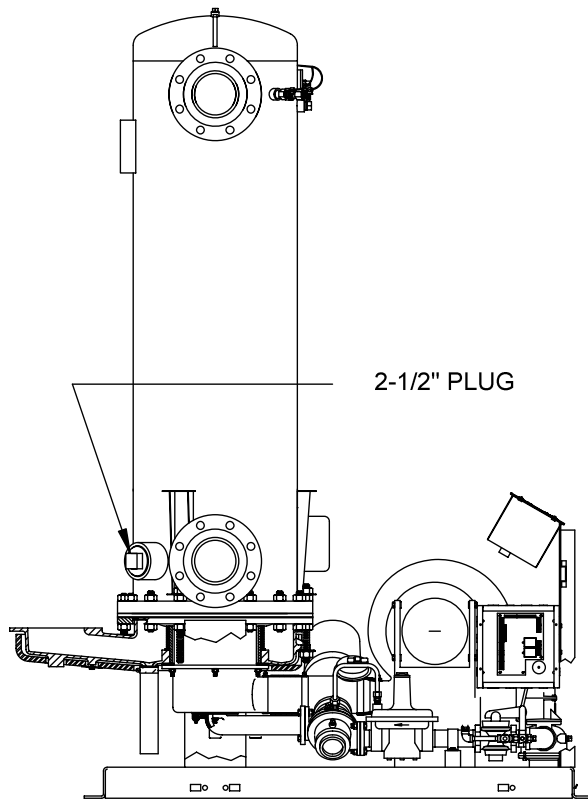

Figure 7.11
4. Remove the 2 1/2 inch plug located in the shell at the rear of the unit (Fig. 7.11).